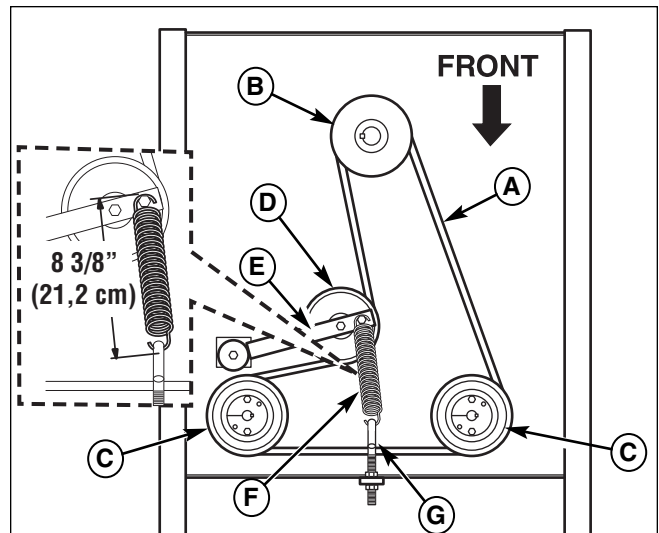

Figure 40. Hydraulic Pump Drive Belt Replacement
4. Loosen the nut towards the front of the machine on the spring anchor hook (G, Figure 40) to release the majority of the belt tension. Use caution and remove the nut to completely release the tension.
6. Reinstall the anchor hook (G) into the anchor tab and loosely fasten the nut. Adjust the anchor hook until a measurement of 8-3/8" (21,2 cm) is achieved from the outside of the spring hooks. Tighten nut.